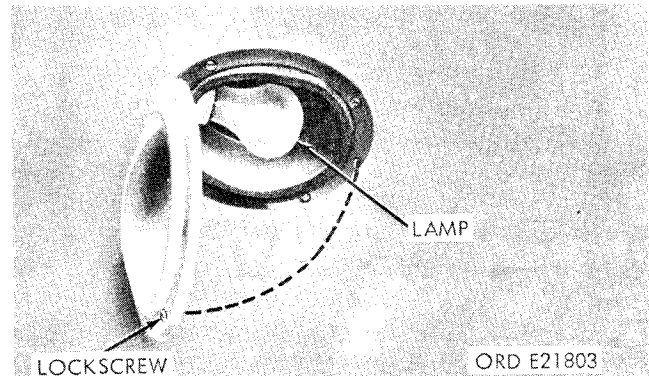

Figure 2-242. Removing emergency and blackout lamp.
*a. Lenses and Lamps (Fig. 2-242).*
- (2) *Replacement of lamps.*